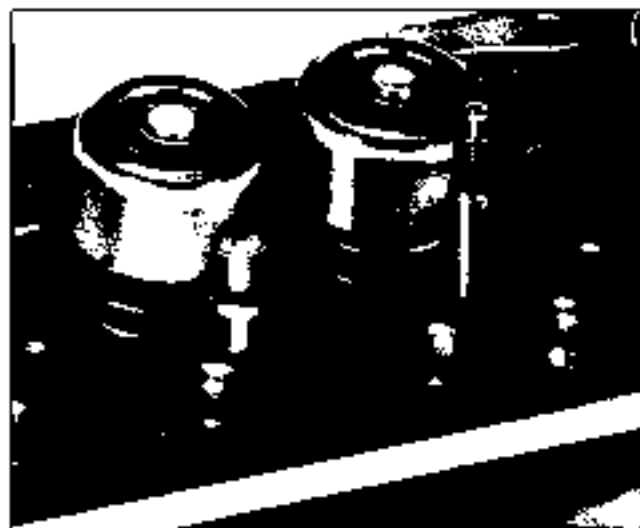

Fig. 6-88 Slots Filed in Rocker Arm Stud
4. With rocker arm removed, file two slots $3/32"$ to $1/8"$ deep on opposite sides of rocker arm stud (Fig. 6-88). Top of slots should be $1/4"$ to $3/8"$ below thread travel.